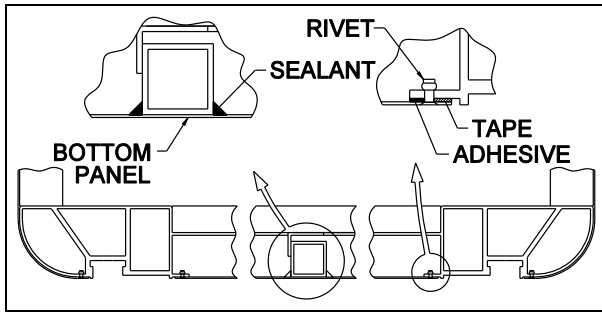
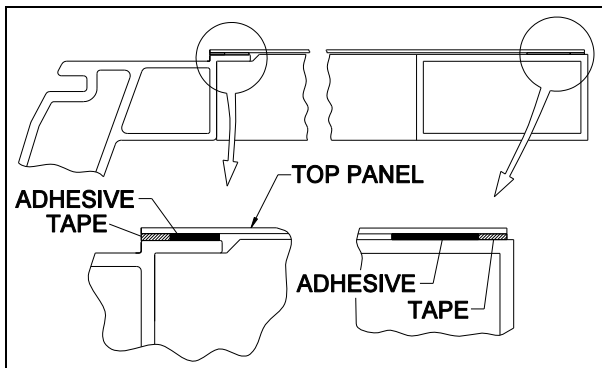

FIGURE 46 : TOP AND BOTTOM PANEL INSTALLATION
FIGURE 47 : TOP AND BOTTOM PANEL INSTALLATION
2. Remove panel rivets with a 1/8" drill bit, a hammer and a punch (figure 46).
- See figure 46 and figure 47 for both bottom and top panel adhesive, sealant and tape position.